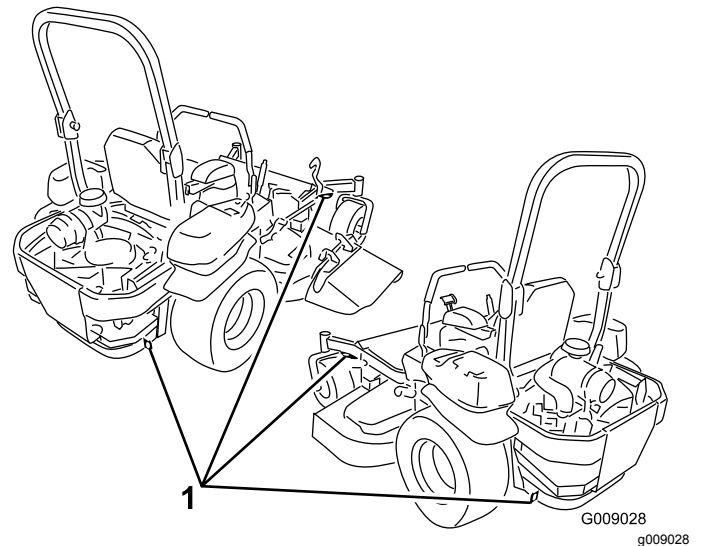

Figure 36
5. Use the metal tie-down loops on the machine to securely fasten it to the trailer or truck with straps, chains, cable, or ropes (Figure 36).